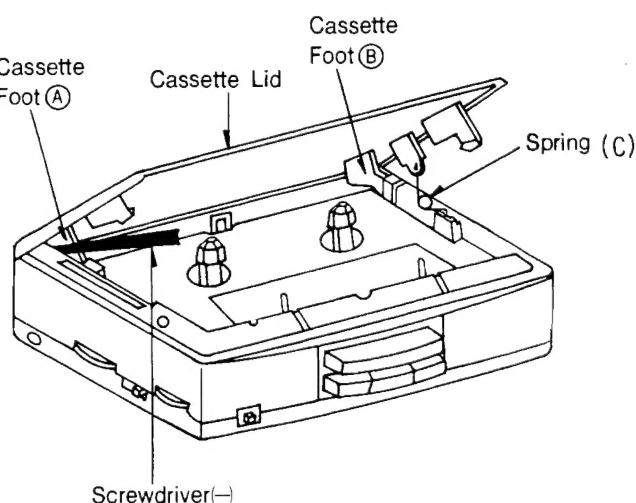

Fig. 3
2. With a screwdriver, push cassette foot (A) to the right as shown in Fig. 3, and then pull out the right side of the cassette lid.
3. Push cassette foot (B) to the left and then pull out the cassette lid.
4. Remove the spring. (C) ×1.